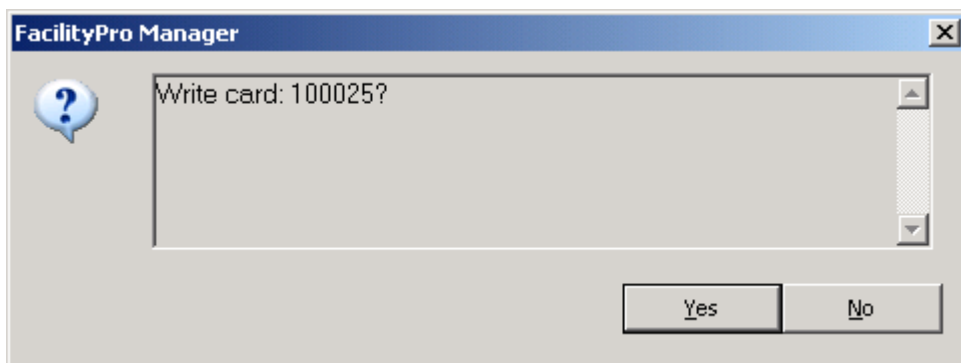
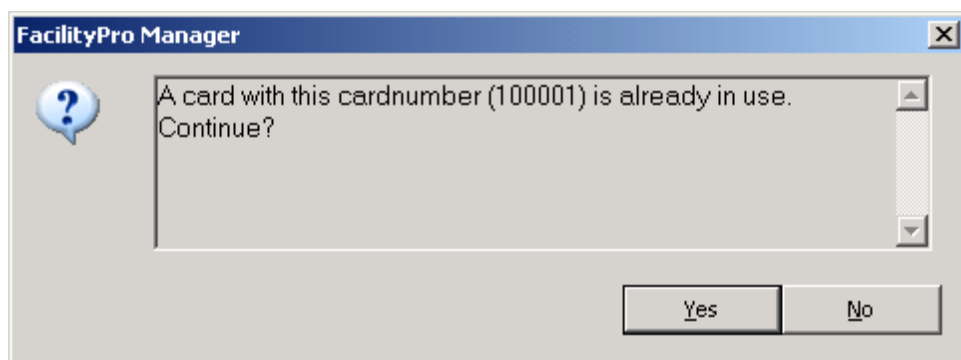
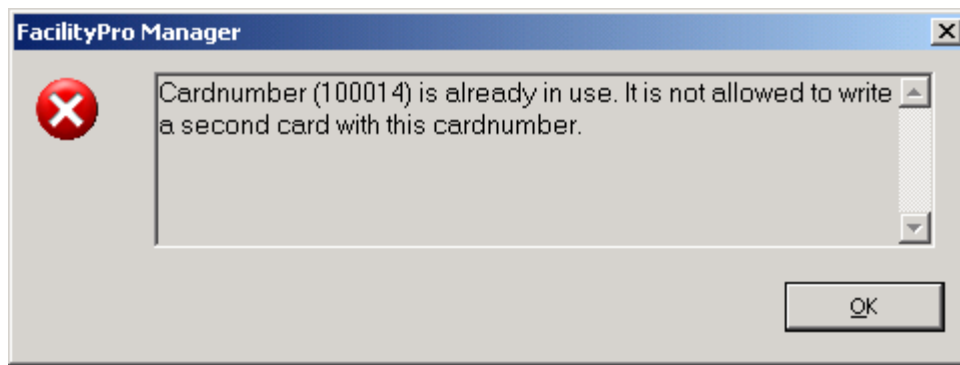

Figure 3-27 Write card
Figure 3-28 Rewrite card
Figure 3-29 Not allowed to rewrite card
5. Click **Write**. You will see a message as in Figure 3-27. If the card already has the card status 'personalised', in other words has been previously written, you will see a message as shown in Figure 3-28 if the authorisation level for 'Card.rewrite card number' has the value 'Available' (§8.3.1) or as shown in Figure 3-29 otherwise.
5. Click **OK**. You will see a message as in Figure 3-27.